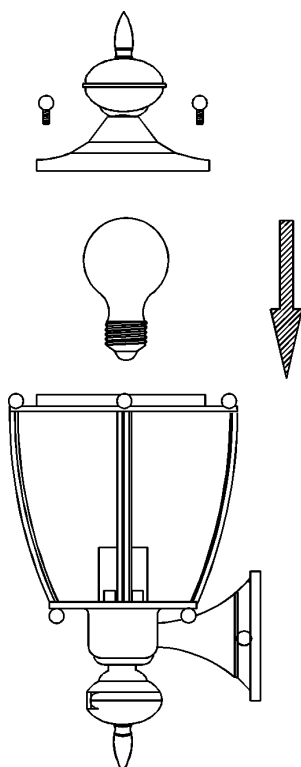

FIGURE 3
- Disconnect the power cord or wall switch. Unscrew the top cover to remove the bulb for replacing new bulb. (FIGURE 3)